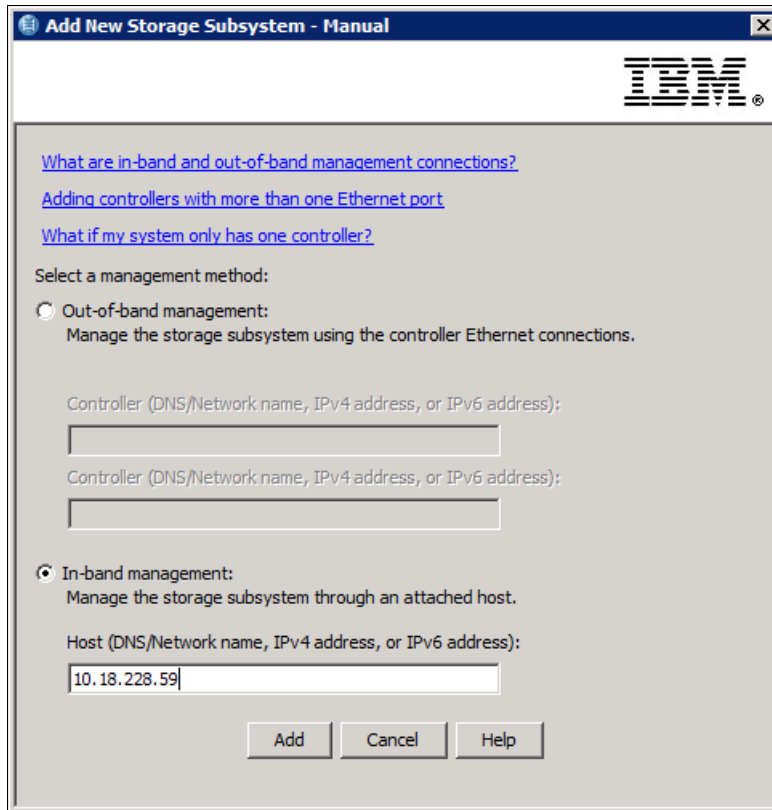

Figure 4-28 In-band management
- For In-band management, select the **In-band management** option and enter the IP address of the attached host, as shown in Figure 4-28.